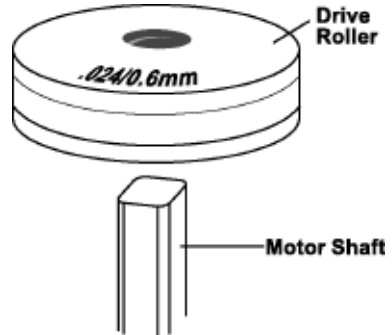

Figure 10. Drive Roller
4. Find the side of the drive roller that is stamped with the same wire diameter as that of the wire being installed (see Figure 10). Push the drive roller onto the drive roller shaft, with the side stamped with the desired wire diameter facing you.